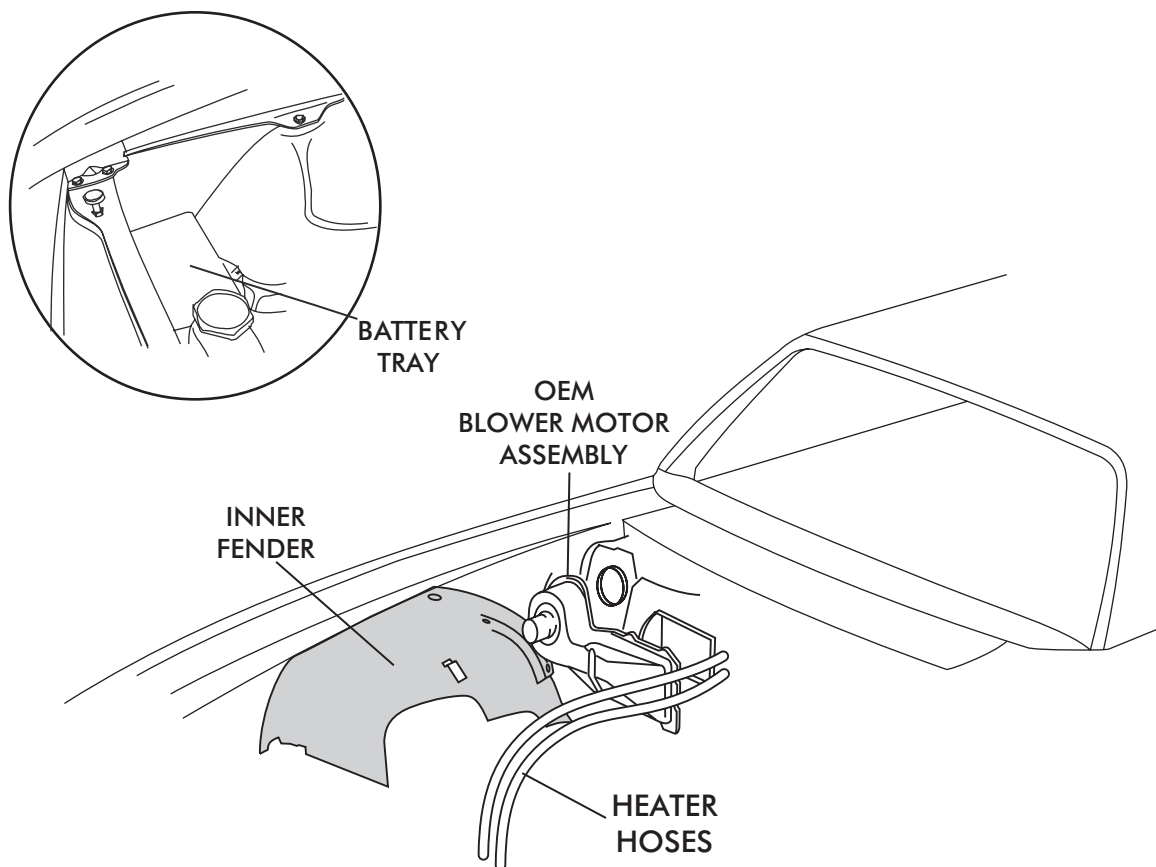

FIGURE 1
- ☐ OEM HEATER HOSES (DISCARD). SEE FIGURE 1.
- ☐ OEM HEATER WIRING (DISCARD) SEE FIGURE 1.